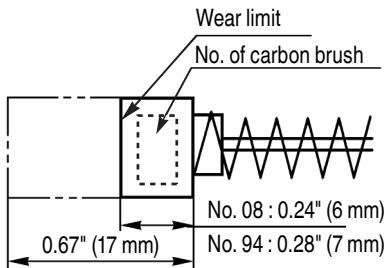

Fig. 17
4. Inspecting the carbon brushes: (Fig. 17)
Use metabo HPT carbon brush No. 08 and No. 94 indicated in Fig. 17.